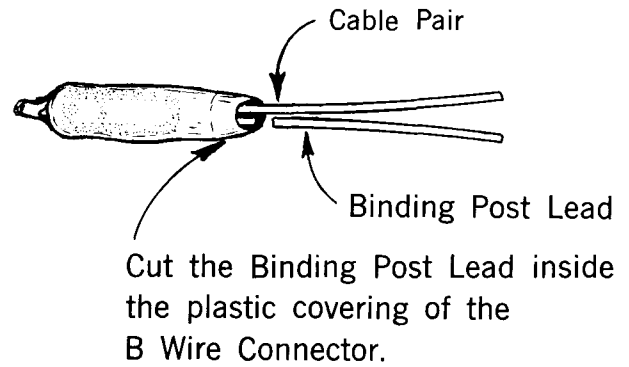

Fig. 17 — Cutting Binding Post Lead
- (11) Ascertain the binder group color and cable pair color of the pair to be restored.
- (12) Cut off the binding post leads **only** at the B Wire Connector which joins these leads to the old cable pair. See Fig. 17.
- (13) **Twist together the old cable pair conductors (whose ends are cleared with the B Wire Connectors) for a few turns and replace in the original center binder group marker.**